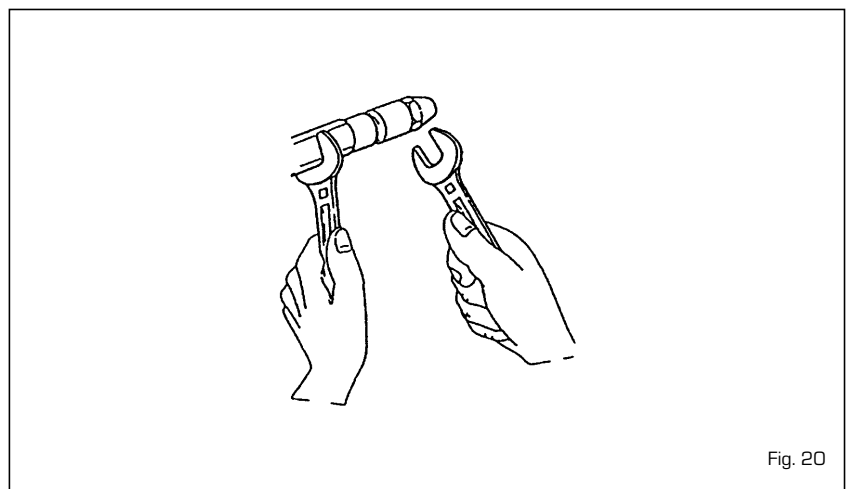

Fig. 20
#### 4.5.3 Substitution of nozzle (fig. 20)
- Block the spray door using a n°19 spanner and unscrew the nozzle with a n°16 spanner (fig. 20).